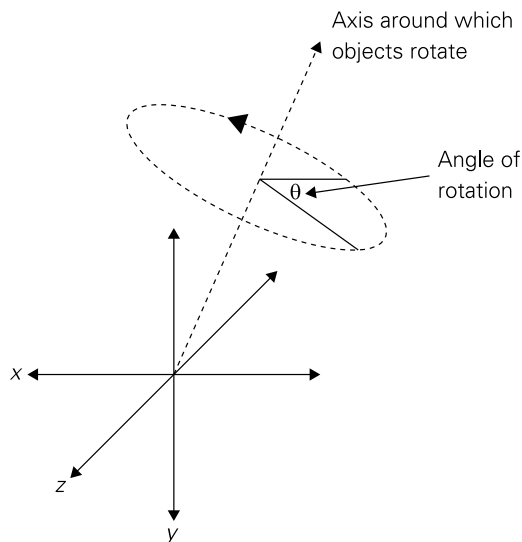

FIGURE 10-8: Rotation is defined by the axis around which objects rotate and the angle of rotation.
- Rotation requires a bit more understanding of three-dimensional coordinate systems. Whereas rotation in two dimensions occurs around a point, in three dimensions this must happen around an axis. Once this axis is defined, a convention must then be used to define whether clockwise or anticlockwise rotation occurs for positive values of rotation around this axis. OpenGL ES uses a right-handed coordinate system so the right-hand rule applies: curling the fingers of your right hand as you point your thumb in the air shows you the direction of positive rotation around an axis pointing in the direction of your thumb. For example, an axis defined by the vector (dx, dy, dz) with respect to the origin (where at least one of dx, dy or dz are non-zero) defines an axis about which each vertex can be rotated by a user-defined angle (which we call θ). (See Figure 10-8.)